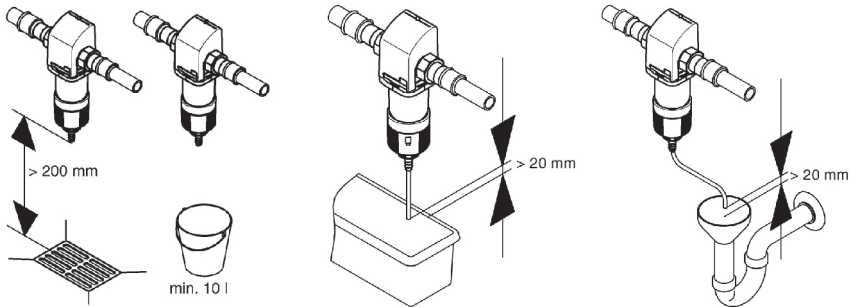

Figure 5. Backwashing water discharge options
An adequately dimensioned wastewater connection (e.g. floor drain) to DIN 1986 must be available for the backwashing water. If there is no wastewater connection an appropriately sized bucket can be used (see Figure 5).
- When the bucket is half-filled the backwashing process must be stopped. Otherwise it is possible for the bucket to overflow. Therefore the bucket must be adequately dimensioned (see Figure 5) and the backwashing should be carried out quickly.